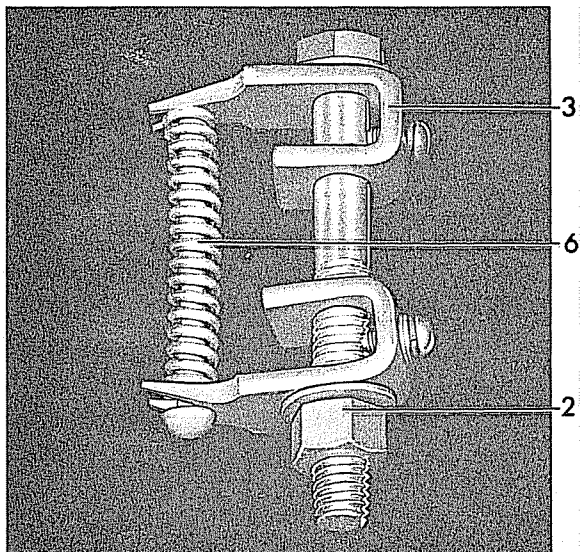

Figure 24A (8034466)
1. Apply a thin coating of D50H47 grease on the hinged edge of the finger (9) then place it on the contact support (7) so that it is retained by stop plate (8).
2. Open spring compressor (3) and assemble spring guide, spring and spring compressor (Figure 24A).